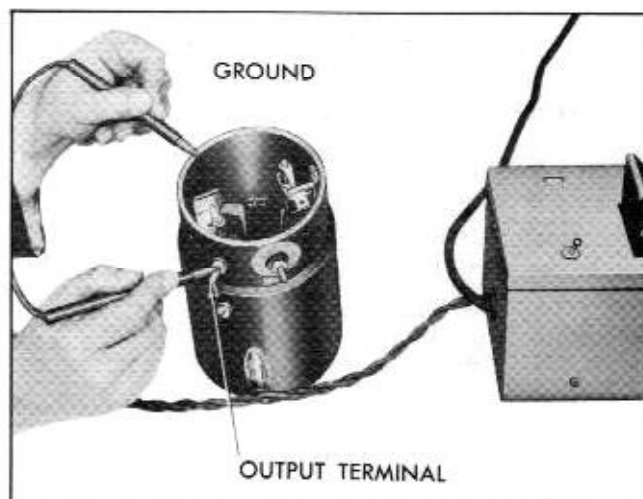

Fig. 12-20 Testing Positive Terminal for Ground
f. Using a 110-volt test lamp, place one lead on generator positive (or output) terminal on generator frame, and place other lead on ground (touch to generator frame) (Fig. 12-20). (Be sure loose end of terminal lead is not touching ground.) If lamp lights, positive terminal insulation through generator frame is broken down and must be replaced.